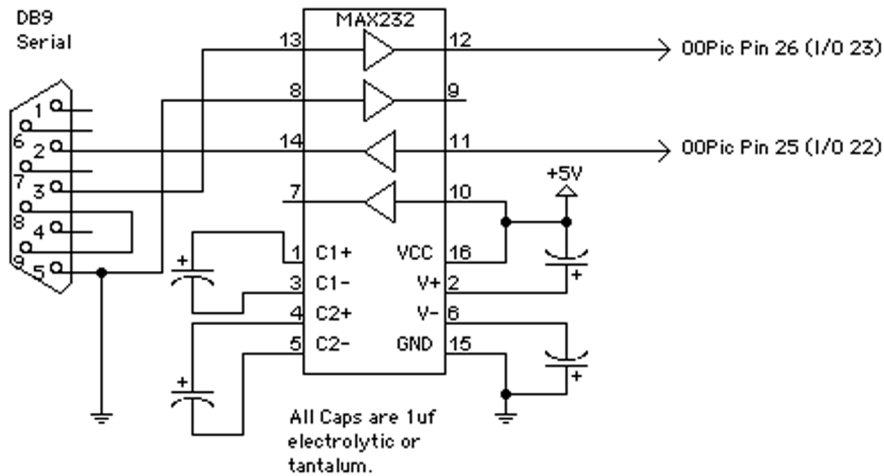

Figure 2-13 OOPic II+ RS232 circuit
If you are using the OOPic II+, you need to do more than provide level translation for the transmit and receive serial lines. Pins 8 and 9 need to be shorted together on the DB9 connector so that the OOPic IDE recognizes a proper serial connection to program. Figure 2-13 shows a schematic example of how to build a proper RS-232-level translator circuit and create the needed signals that the OOPic will require for serial port programming.
- Your home brew, *do-it-yourself* (DIY) RS-232-level converter and DB9 circuit is faulty. Refer to Figure 2-13 for how to build a proper one for the OOPic II+ or C. Remember that the OOPic C has the RS-232-level translation built in; all you need to do is configure the DB9 cable properly.